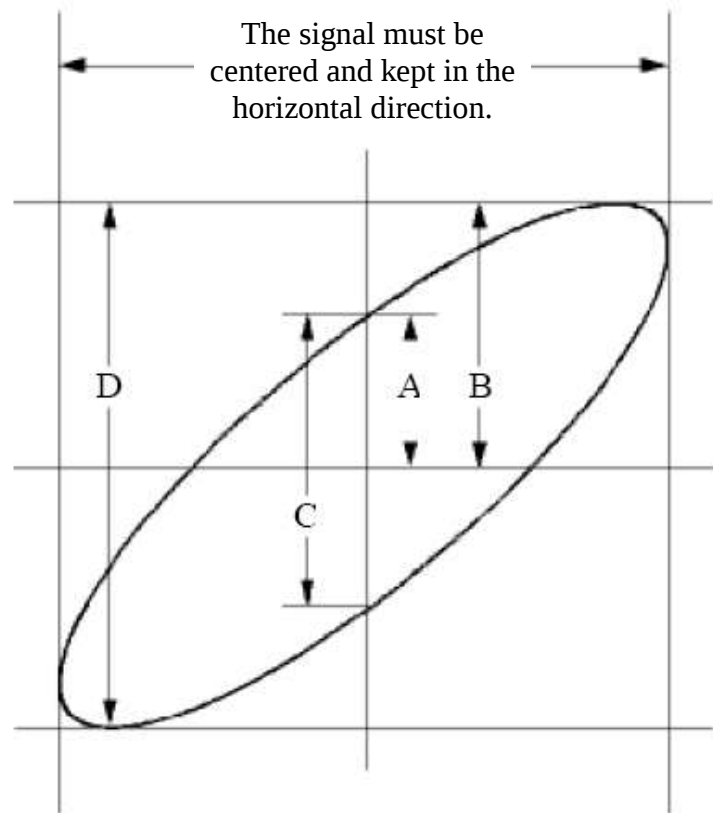

Figure 6-6 Lissajous Graph
- (1) Set the probe menu attenuation coefficient for **10X** and that of the switch in the probe for **10X** (see "*How to Set the Probe Attenuation Coefficient*" on P11).
- (2) Connect the probe of channel 1 to the input of the network and that of Channel 2 to the output of the network.
- (3) Push the **Autoset** button, with the oscilloscope turning on the signals of the two channels and displaying them in the screen.
- (4) Turn the **Vertical Scale** knob, making the amplitudes of two signals equal in the rough.
- (5) Push the **Acquire** button to display the right menu.
- (6) In the right menu, select **XY Mode** as **ON**. The oscilloscope will display the input and terminal characteristics of the network in the Lissajous graph form.
- (7) Turn the **Vertical Scale** and **Vertical Position** knobs, optimizing the waveform.
- (8) With the elliptical oscillogram method adopted, observe and calculate the phase difference (see *Figure 6-6*).